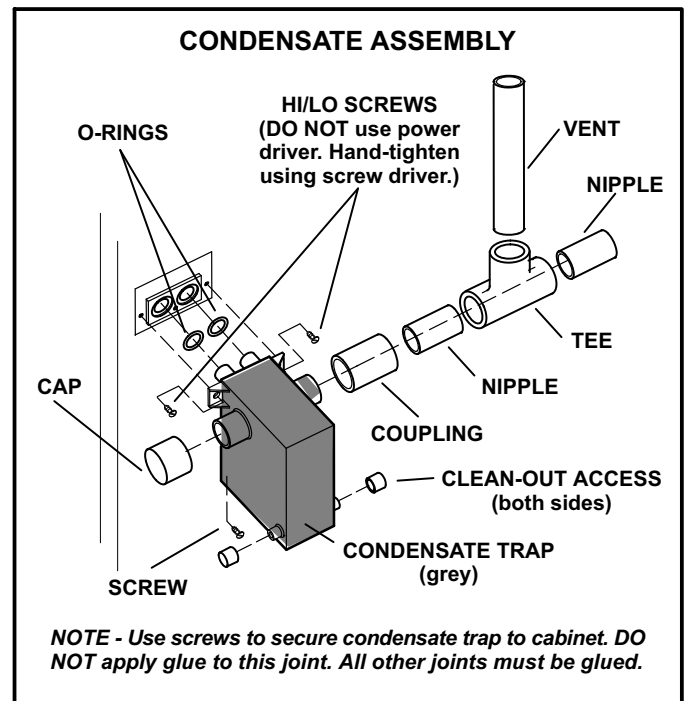

FIGURE 34
- 2 - Install condensate trap onto the condensate collar. Use provided HI/LO screws to secure two upper flanges of the trap to the collar. Use provided sheet metal screw to secure bottom trap flange to side of unit. **DO NOT apply glue to secure condensate trap to cabinet.** All other joints must be glued. See figure 34.